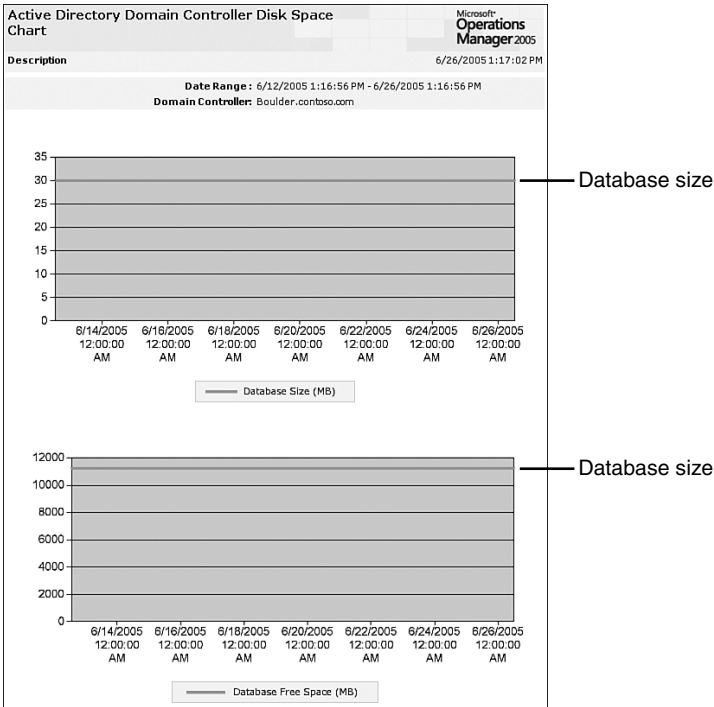

FIGURE 16.9 AD DC Disk Space report.
- ▶ ADMP AD DC Disk Space—It is critical that Active Directory has adequate free space. This report, shown in Figure 16.9, summarizes AD disk space usage and free space for the database and log volumes. You can use this report to trend and predict the size of volumes you will need, given the current growth rate.